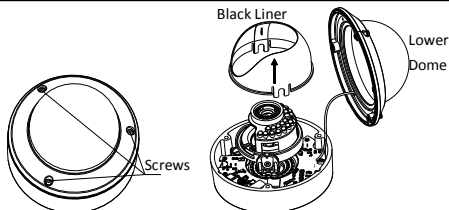

Figure 2-1 Remove the Lower Dome and Black Liner
2. Open the lower dome and remove the inner black liner as shown in Figure 2-1.